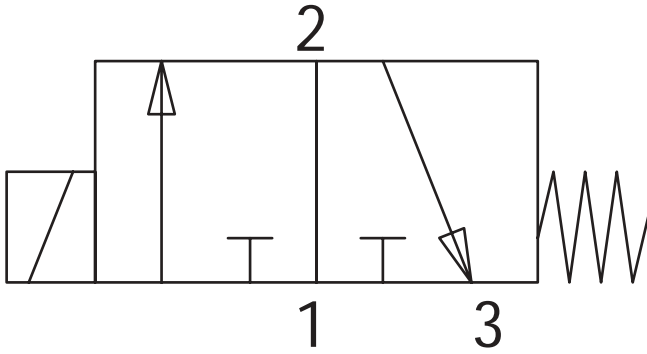
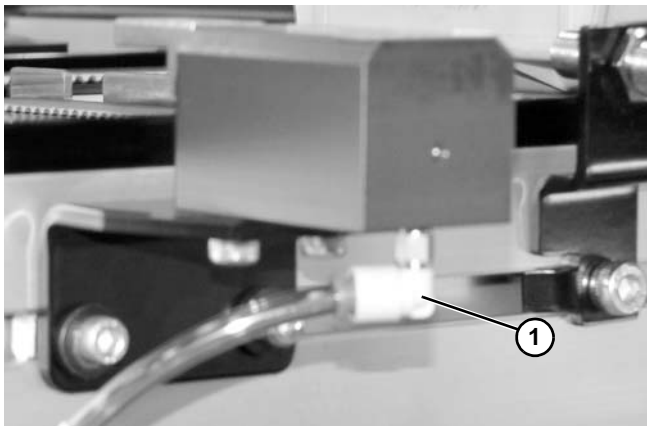

Figure 44
Figure 45
Dorner recommends using a 3 port, 2 way solenoid valve (**Figure 44**) to operate cushion reset.
1. Connect port 2 (**Figure 44**) of the 3 port, 2 way valve to the cushion reset port (**Figure 45, item 1**).